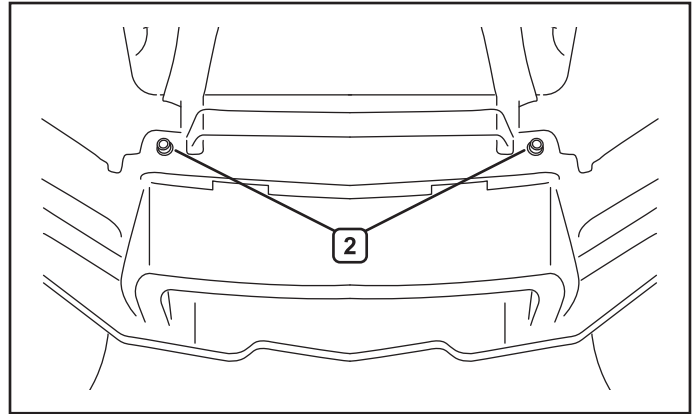

Figure 3. Front fascia removal
3. Unplug the wires from both headlights. Remove the front fascia by removing ten Torx bolts (2) as illustrated in figures 3, 4 and 5.